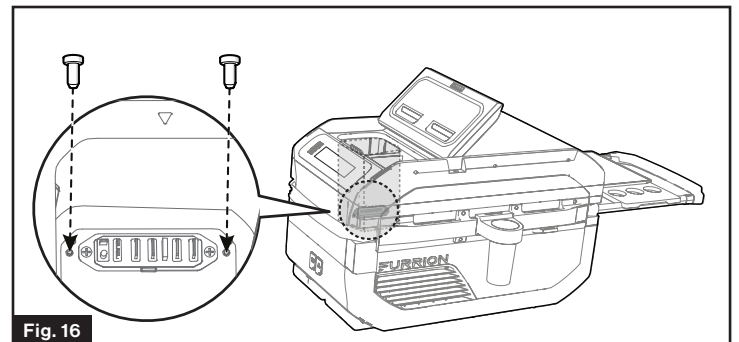

Fig. 16
3. Block the screw holes with 2 screw plugs (provided). (Fig. 16)